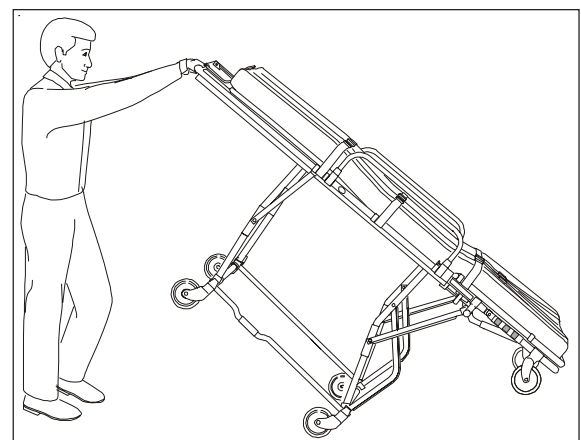

Figure 16 - Folding an Empty Cot
2. Lift cot until undercarriage unfolds and securely locks in loading position. The cot will be resting on its loading wheels and head-end transport wheels (Figure 16).
2. Grasp main frame at foot end of cot and tip cot until it rests on its loading wheels and head-end transport wheels (Figure 16).